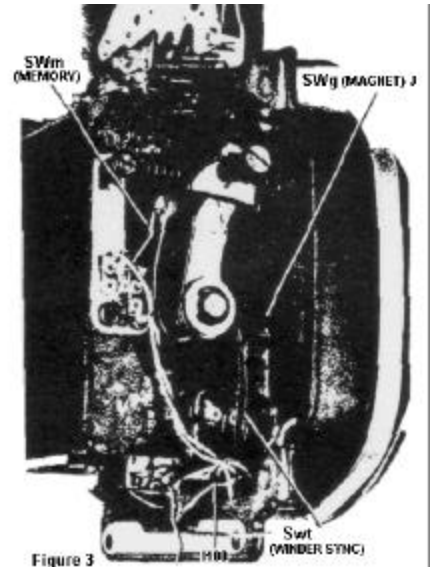

Figure 3
- Fig. 3 - Front of camera, wind side